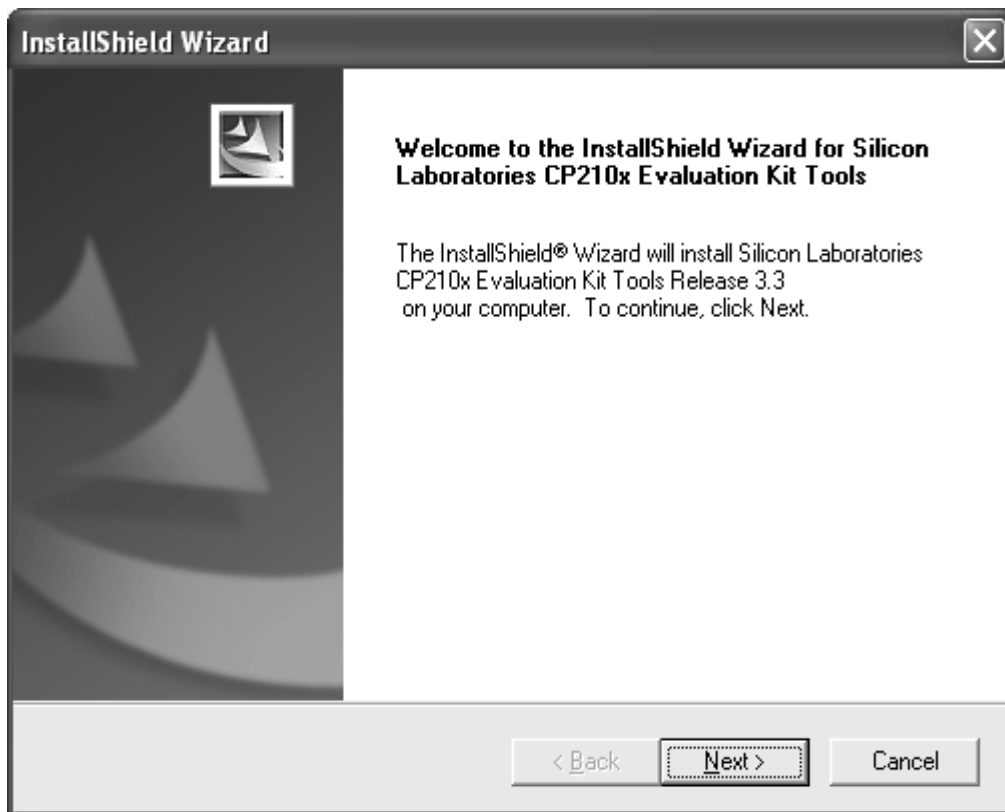

Fig. 28 Installer program start-up
- (1) Double-click **CP210x_Drivers.exe** on the explorer screen.
- (2) The installer program is started and the screen shown in Fig.28 appears.